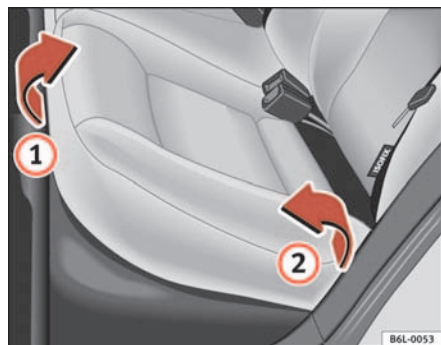
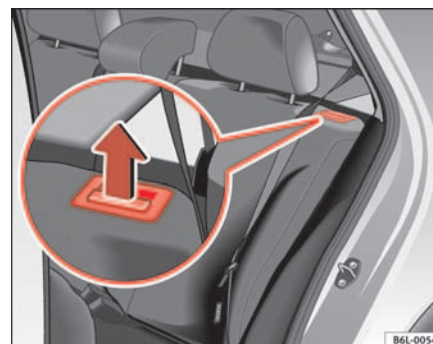

Fig. 74 Folding up the rear seat cushion
Fig. 75 Button for unlocking the rear backrest
- Pull the front edge of the seat cushion ⇒ fig. 74 ① upwards in the direction of the arrow.
- Lift the cushion ② forwards in the direction of the arrow.
- Pull the release button ⇒ fig. 75 in the direction of the arrow and fold the backrest forwards